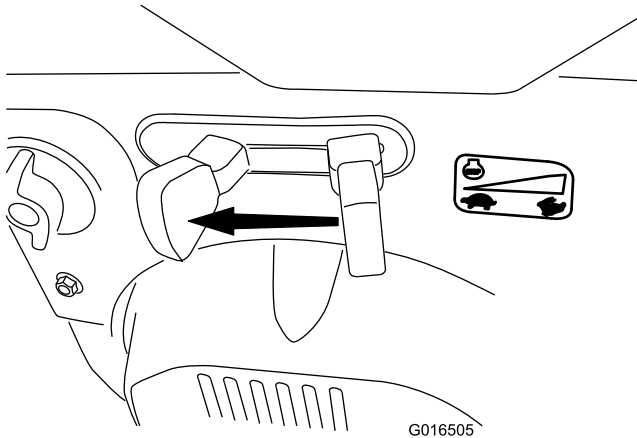

Figure 27
1. Move the throttle to the SLOW position, and then to the STOP position (Figure 27). You can also shut off the engine by pulling the ignition key outward to the middle position.